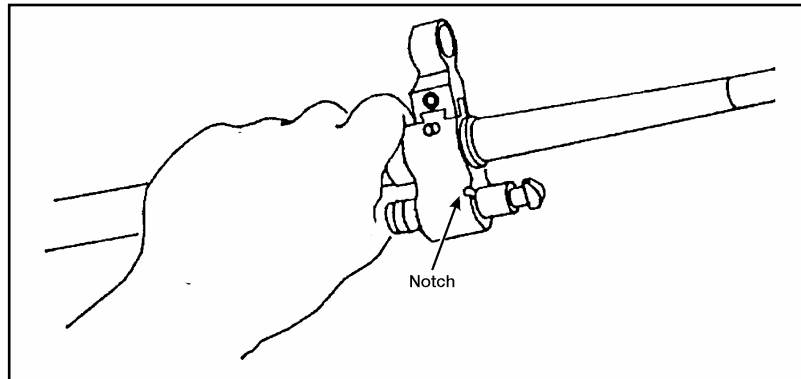

Figure 071-312-4025-24. Replacement of the gas regulator
(2) With the gas regulator installed and supported on a firm surface, place the gas collar on the protruding end of the gas regulator. Rotate the gas collar until it slips in place. To lock the gas regulator in place, press it in and rotate it (figure 071-312-4025-25).